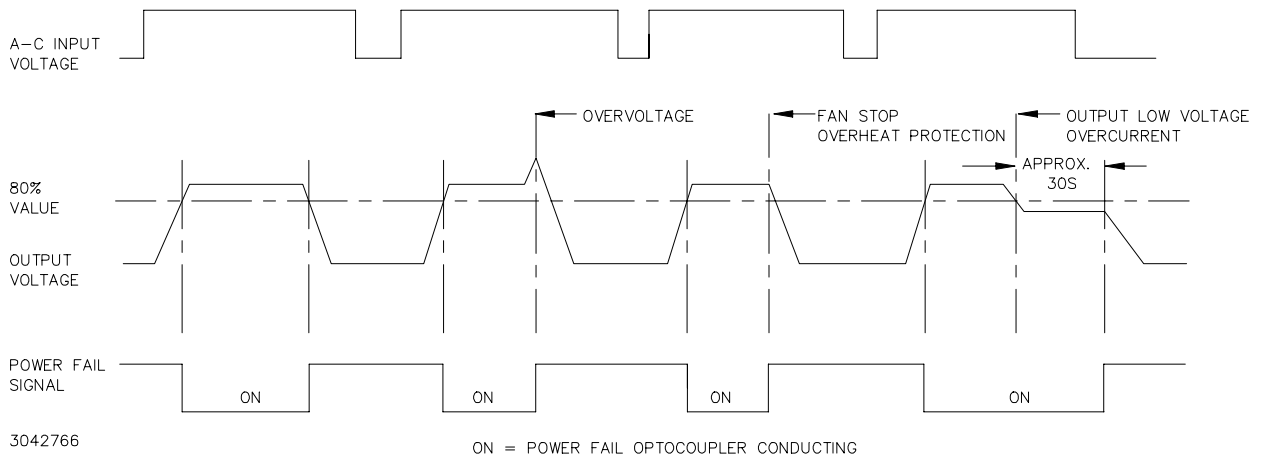
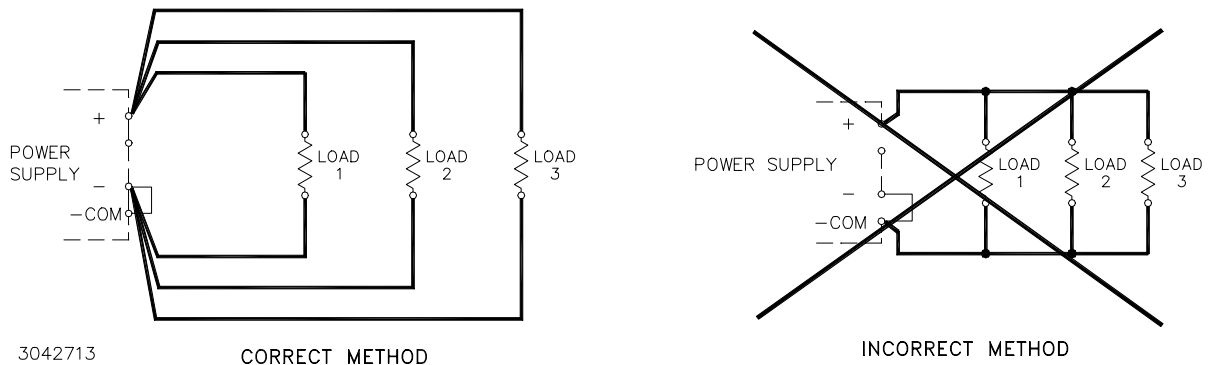

FIGURE 3. RKE 1500W POWER FAILURE TIMING DIAGRAM
FIGURE 8. CORRECT AND INCORRECT METHODS OF LOAD CONNECTION
3. DC output terminals (+, -): Connect to load (see Figure 8).
6. Remote voltage adjustment terminal (RV): This terminal (together with the REF terminal) is used for remotely controlling output voltage (see PAR. 4.2).
7. Current balance terminal (CB): This terminal is used when several power supplies are connected in parallel (see PAR. 6.2).
8. Power failure terminal (+PF, -PF) - These terminals output an open logic signal if output voltage drops to 80 % or lower of a set voltage, or if output voltage is shut down due to overvoltage or overcurrent protection, fan speed failure, or overheating. (see Figure 3).
The load is connected across DC output (+) and (-) terminals (see Figure 8).